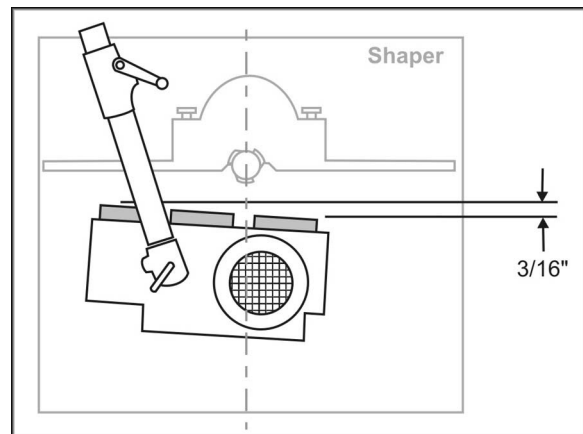

Figure 16
- To ensure that the workpiece is held firmly against the fence, set the stock feeder at a slight angle toward the fence in the direction of feed. In other words, the outfeed roller should be approximately $3/16''$ (5mm) closer to the fence than the infeed roller. See Figure 16.